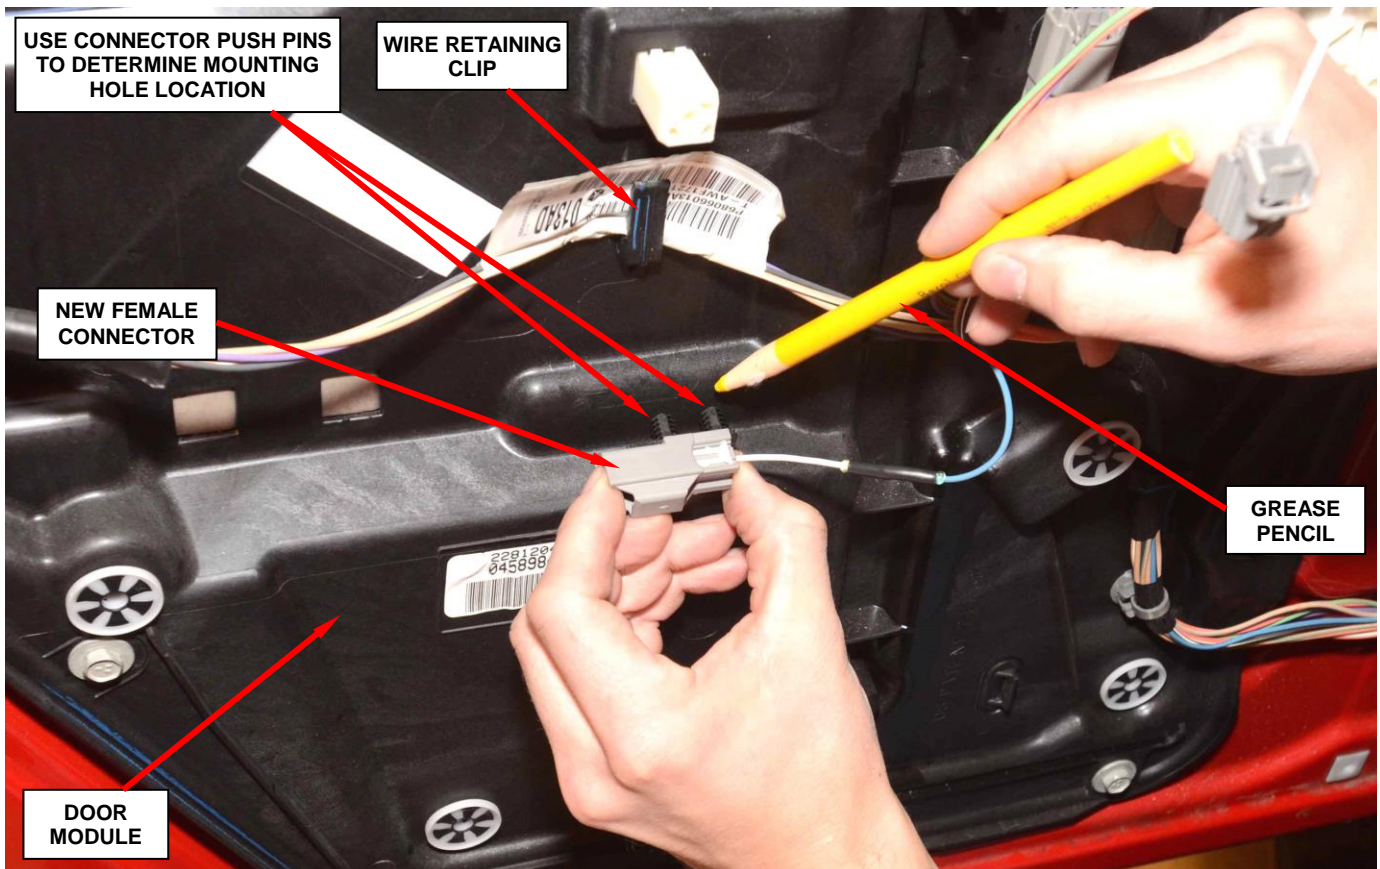

Figure 9 – Mark Connector Retaining Hole Location
18. Using a grease pencil or equivalent, mark the location of the mounting holes on the door module (Figure 9).